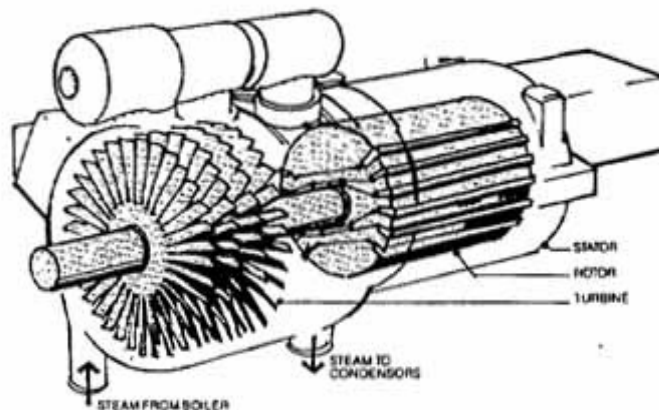

Figure 3: Inside the generator
A generator turns mechanical energy into electrical energy. The turbine turns a *rotor* which consists of coils of wire wound on a steel core (see Figure 3 below). An electric current supplied to the rotor produces a magnetic field so that it behaves like a magnet. This is an electromagnet. The rotor turns inside another set of windings called the *stator*. As the rotor turns its magnetic field induces an electric current in the coils of the stator. Because first the north pole and then the south pole cuts the stator windings, the current that flows continually changes its direction. This is an alternating current (AC) generator, sometimes called an alternator. In Australia, there is a complete cycle of flow and reversal 50 times a second, making the supply frequency 50 Hertz.